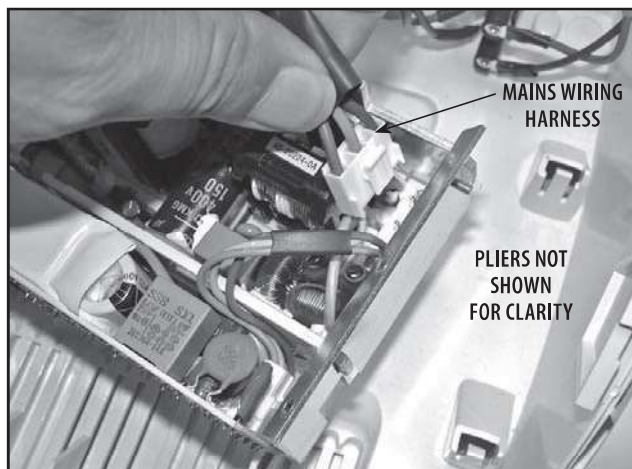

FIGURE 6.42
8. Using Insulated Needle Nose Pliers, disconnect the Mains Connector Wiring Harness from the Power Supply Assembly. **See Figure 6.42.**
9. Remove 100 Watt Power Supply from Mounting Bracket by removing the two retaining screws from the inside top of the Power Supply. **See Figure 6.42.**